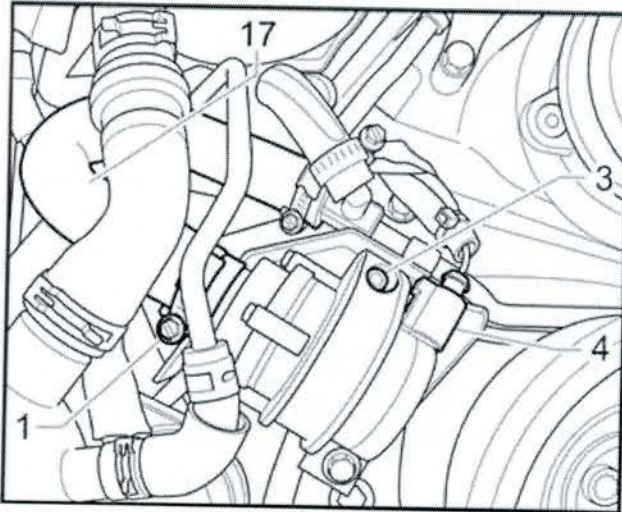

Figure 16
21. Remove and discard hose -17- (see Figure 16)
- Remove the screw – 3- (T25), partially withdraw the pump (see Figure 16)
25. Refit electric water pump and tighten securing screw –3- (see Figure 16)
26. Fit new -17- hose and secure hose clips (see Figure 16)